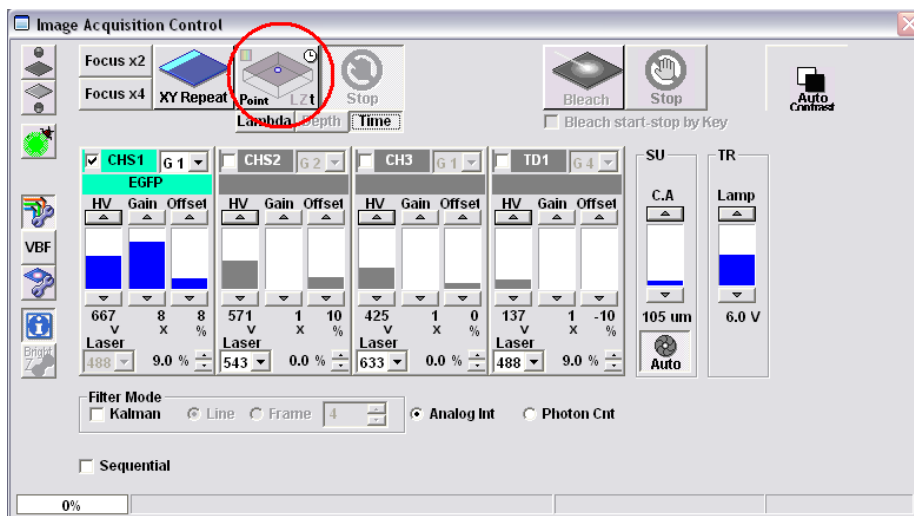

Fig. 2.22: Starting a Point measurement in the FluoView 1000 software.
- **FluoView 1000 - software :** **Start a point measurement** at the FluoView 1000 (Fig. 2.22).The detector count rate should increase. Make sure the sample is sufficiently shielded from room light, as this might increase background.
1. **FluoView 1000 software:** Start a point measurement as described above (Fig. 2.22).